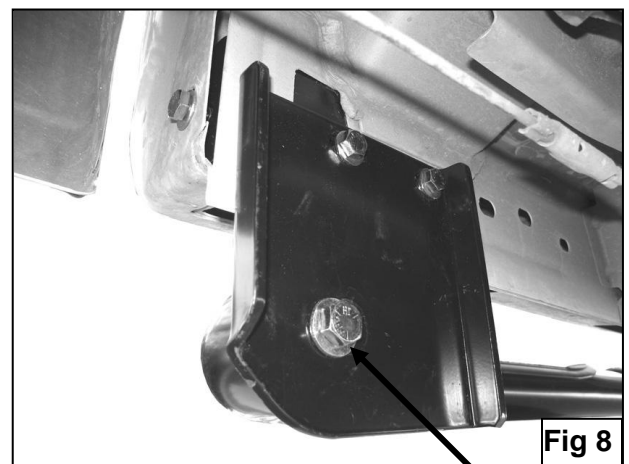

Fig 8
8. Once the front end of the Sidebar is loosely installed proceed to attach the rear end of the Sidebar to rear Mounting Bracket using the included (1) ½" x 2" Hex Head Bolt, (1) ½" Lock Washer, and (1) ½" Flat Washer (**Figure 8**).